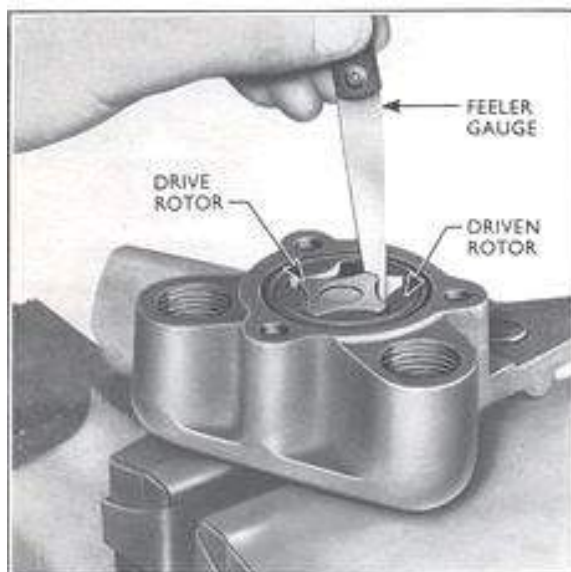

Fig. 33
2. Install the drive and driven rotors in the pump body, and check the clearances between the rotors, at all points, with a feeler gauge as shown in Fig. 33. If the clearance exceeds 0.006 in. (0.152 mm.) replace the drive and driven rotors as a matched assembly.